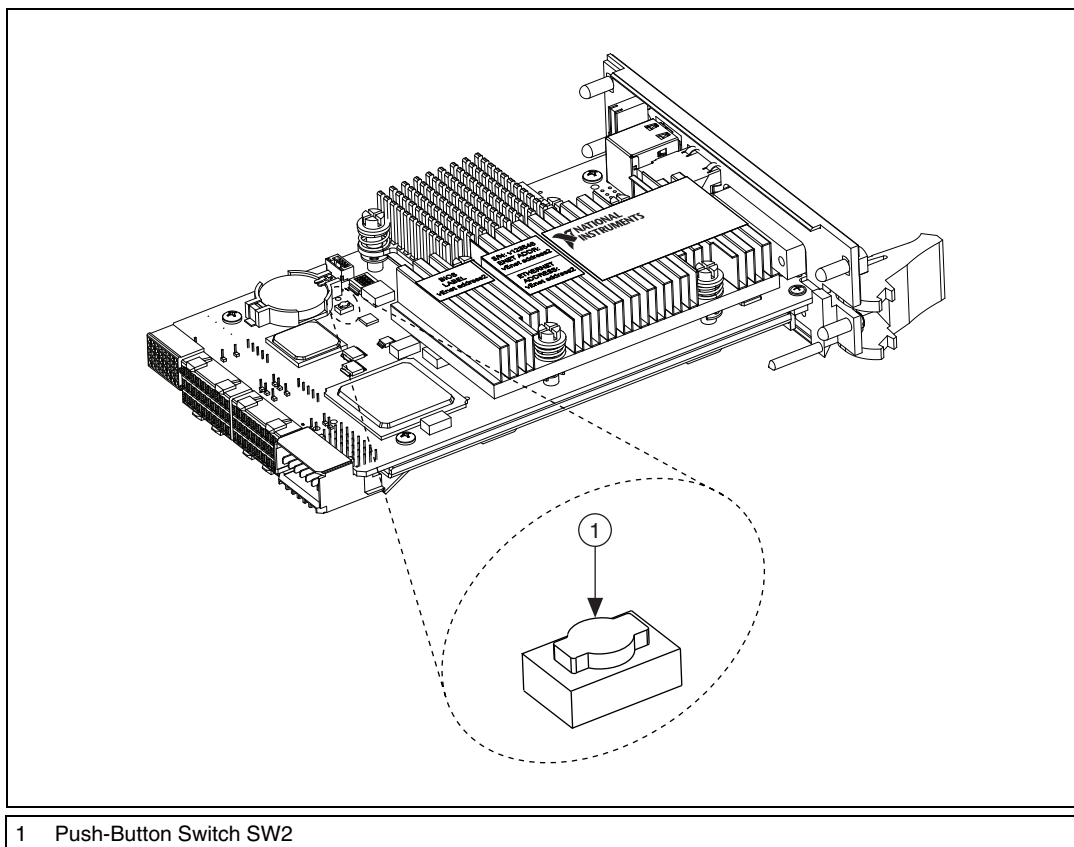

Figure 2-3. Clearing the CMOS Contents
3. Press and hold down push-button switch SW2 for 2 to 3 seconds. The switch location is shown in Figure 2-3.